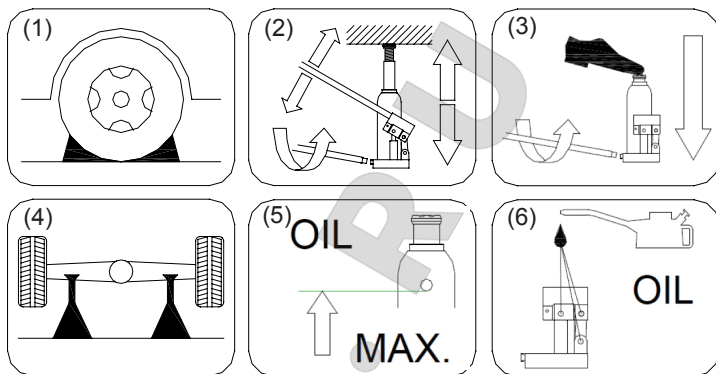
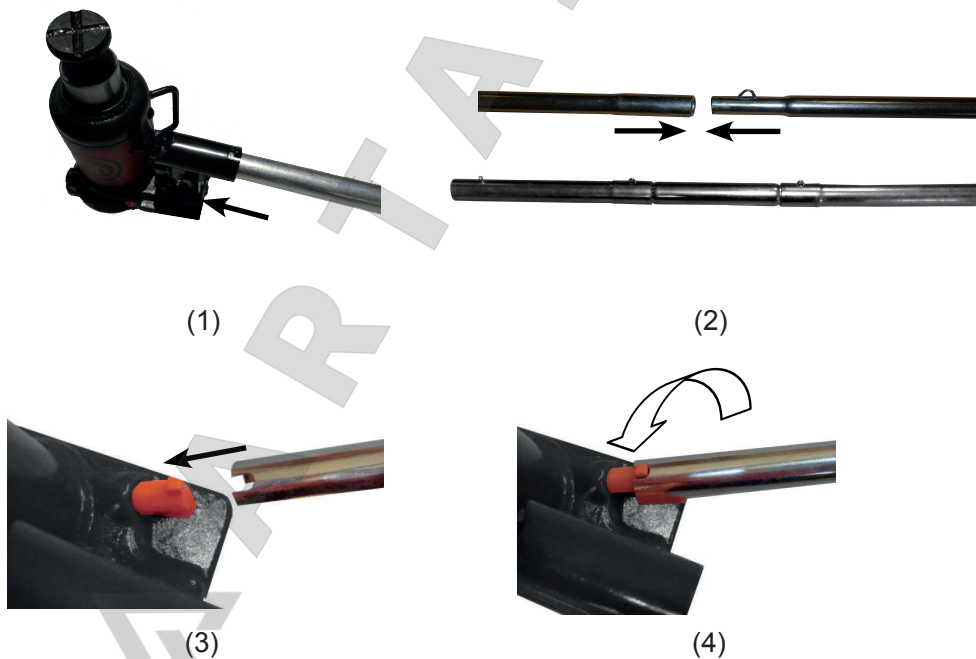

Fig. 03
Fig. 02
- Assemble the two or three parts handle. (Fig.02(2)).
- Now place the lever rod to the lifting device and place the lever rod into the support (Fig.02(1)).
- Use the lever rod to bring the lifting device to the desired height (Fig.03 (2)). Make sure that the hydraulic valve is closed. For this purpose it is necessary to fasten the lever rod clockwise.
- In order to lower the load turn the lever rod slowly anticlockwise (Fig.02(3&4) & Fig.03(3)).
- Never use the lifting jack in order to leave the car lifted. Always use chassis stands (Fig.03(4)).
- Make sure that no person stays in the vehicle that will be lifted. Turn off the engine and put on the handbrakes of the vehicle. Use wedges to prevent the vehicle from moving (Fig.03(1)). Do not get into the vehicle and do not turn the engine on.
- Den dreiteiligen Griff montieren. (Abb. 02 (2)).
- Jetzt die Hebelstange an der Hebevorrichtung anbringen und die Hebelstange in die Halterung setzen (Abb. 02 (1)).